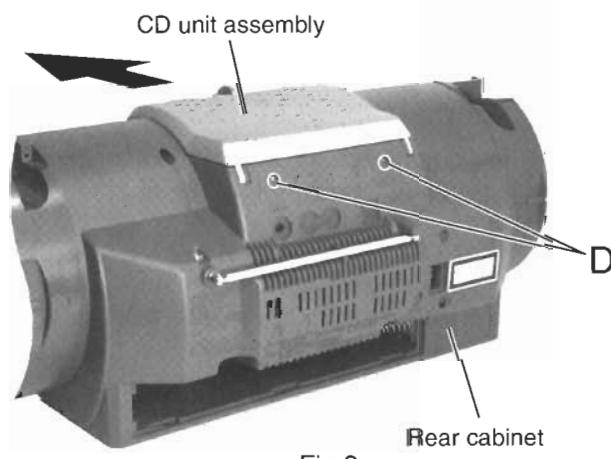

Fig.8
- Remove the two D screws attaching the CD mechanism assembly on the back of the rear cabinet (See Fig.8).